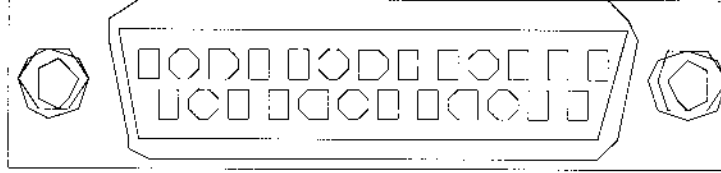
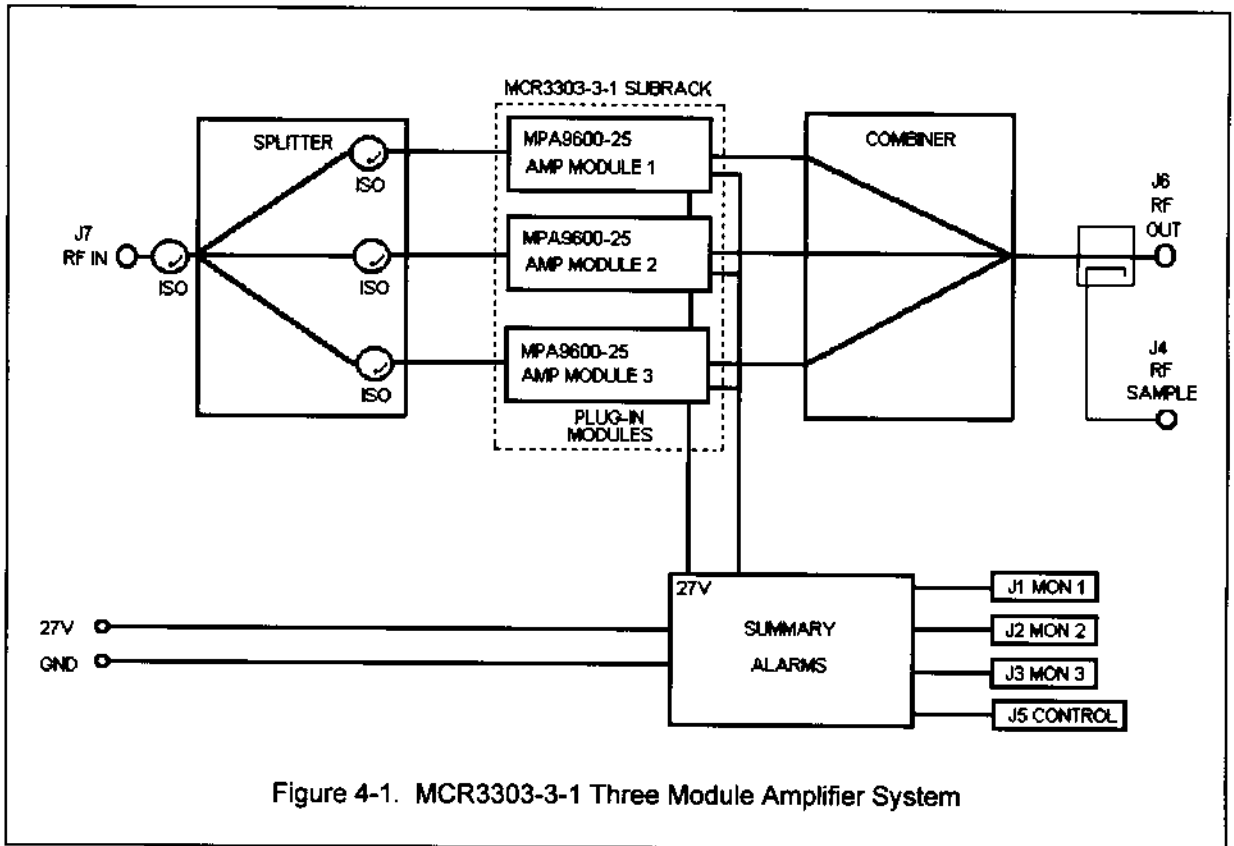

Figure 2-3. Connector J5
Figure 4-1. MCR3303-3-1 Three Module Amplifier System
4. Connect monitor cables for amplifiers 1 through 3 to connectors J1 MON 1 through J1 MON 3 respectively on rear of subrack (refer to figure 2-3 and table 2-3 for J1 – J3 definition).
Connector J5 CONTROL on the rear of the MCR3303-3-1 subrack is a 25-pin female D-sub connector that supports the RS-485 communications function. Refer to figure 2-3 and table 2-3 for connector definition.
The amplifier system is comprised of an MCR3303-3-1 subrack and up to three MPA9600-25 plug-in power amplifiers. The MPA9600-25 amplifier is a linear, feed-forward power amplifier that operates in the 25 MHz frequency band from 1970 TO 1990MHz. A typical three module system is shown in figure 4-1. Power output specifications for one to three module systems are listed in table 1-2. Each amplifier is a self-contained plug-in module and is functionally independent of the other amplifier modules. The amplifier modules are designed for parallel operation to achieve high peak power output, and for redundancy in unmanned remote locations. The subrack houses a three-way power splitter/combiner, summary alarm logic, and a voltage regulator. The rear panel of the subrack has I/O connectors that interface with the host system, RF signal source, system antenna, and the system DC power source. The amplifier system can simultaneously transmit multiple carrier frequencies, at an average total power output of 25 watts (one amplifier module in a subrack unit) to 75 watts (3 amplifier modules), with -60 dBc third order intermodulation distortion (IMD).
The MCR3303-3-1 subrack (see block diagram figure 4-1) are not field repairable. The subrack contains a three-way RF power splitter/combiner, voltage regulator, and summary alarm board. The splitter/combiner has an input splitter and an output combiner, which provide good VSWR and ensure low insertion loss. The splitter/combiner has relays that are activated and deactivated by the summary alarm board when a plug-in amplifier is power sequenced on or is shut down. The voltage regulator provides +5 Vdc and +15 Vdc power to the summary alarm board. The primary function of the summary alarm board is to control the amplifier turn-on and turn-off sequence. Other functions include calculating the average power output from the amplifiers and controlling the relays in the combiner. Additionally, the summary board also controls the form C contacts whose output terminals are connected to rear panel connector J5 CONTROL (see figure 2-3 and table 2-3).